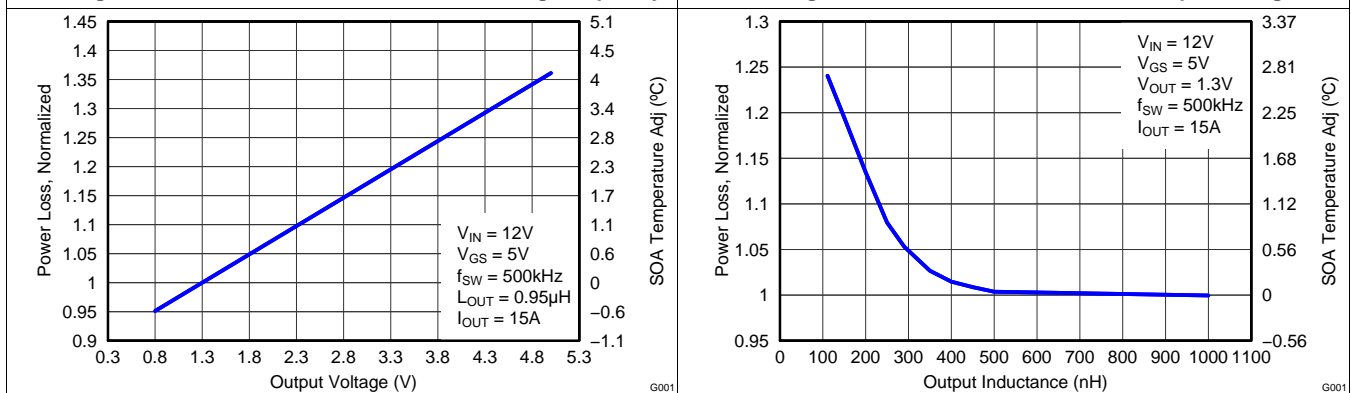

Figure 7. Normalized Power Loss vs Output Voltage
- Normalized Power Loss for output voltage \approx 0.97 (Figure 7)
- SOA adjustment for output voltage \approx -0.3°C (Figure 7)